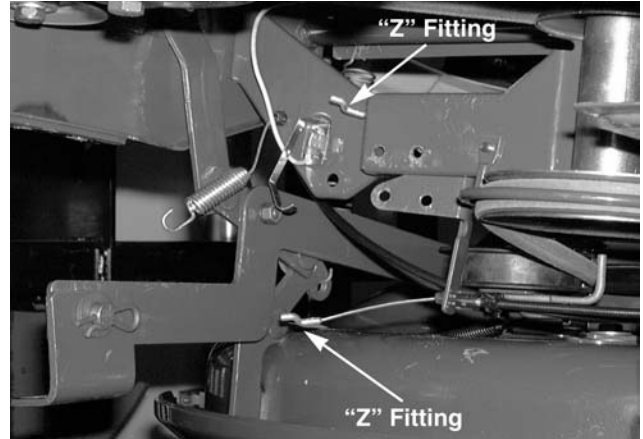

Figure 8-55.
12. Slide the transmission slowly to the rear and remove the shift cable "Z" fittings from the shift lever. See Figure 8-55.